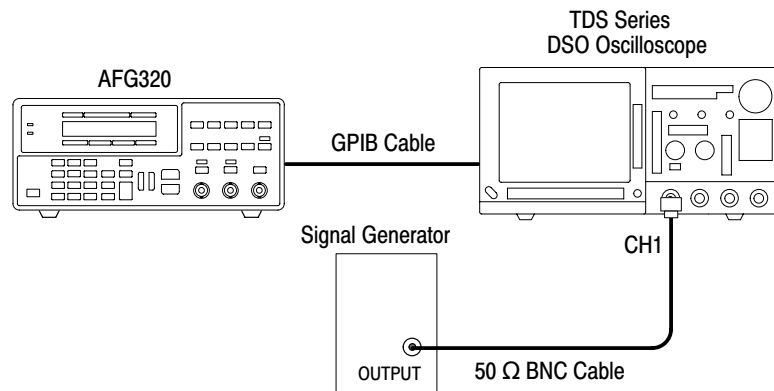

Figure 2–31: Hookup for Importing Waveform
Output Frequency and Display Frequency depend on the AFG internal clock and waveform data points. According to Display Frequency value, the internal clock is generated after calculating internally and set. Therefore USER can not set and change the internal clock value directly. Table 2–3, 2–4, 2–5 and Figure 2–22 to 2–29 are example of Output Frequency vs. Display Frequency at ARB (EDIT and USER) waveform.
1. Connect the AFG320 instrument to an oscilloscope using a GPIB cable. Connect the signal generator to the oscilloscope using a 50 Ω BNC cable with a 50 Ω termination as shown in Figure 2–31.